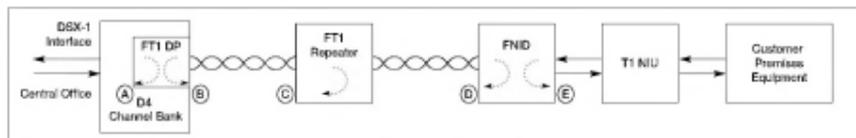

Figure A-1. FT1 Loopbacks
Figure A-1 shows the application from the central office (CO) to customer premises. The FT1 Repeaters are shown for convenience and are not necessary parts of the FT1 network. The loopbacks shown are as follows: